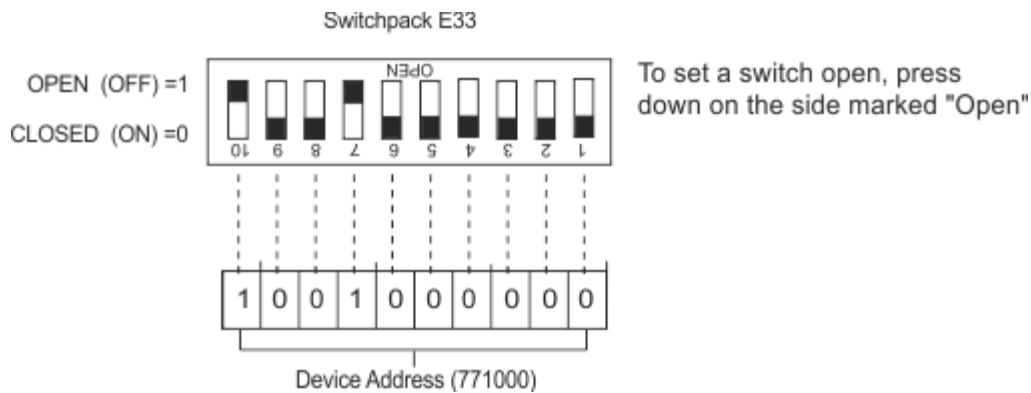

Figure 1-2: Device Address Switch Setting
- Figure 1-2: Device Address Switch Setting 5
Switchpack E33 is used to establish a base device register address. Figure 1-2 shows the switch settings as set at the factory.